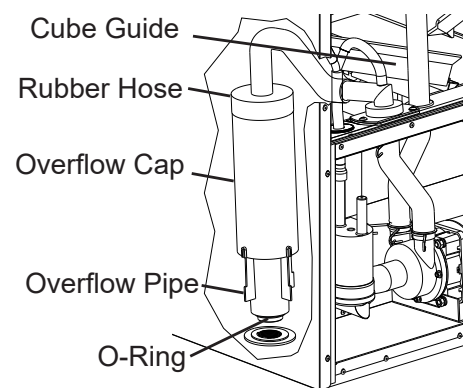

Fig. 16
- 7) Slide the cube guide to the right, then remove the rubber cap and sleeve covering the overflow pipe. See Fig. 16. Unscrew the overflow pipe. After the water tank has drained, reconnect the overflow pipe. Replace the rubber hose, overflow cap, and cube guide in their correct positions. **NOTICE! Make sure the O-ring is attached to the bottom of the overflow pipe and be careful not to cross thread the overflow pipe.**
- 3) Slide the cube guide to the right, then remove the rubber hose and overflow cap covering the overflow pipe. See Fig. 16. Unscrew the overflow pipe. After the water tank has drained, reconnect the overflow pipe. Replace the rubber hose, overflow cap, and cube guide in their correct positions. **NOTICE! Make sure the O-ring is attached to the bottom of the overflow pipe and be careful not to cross thread the overflow pipe.**